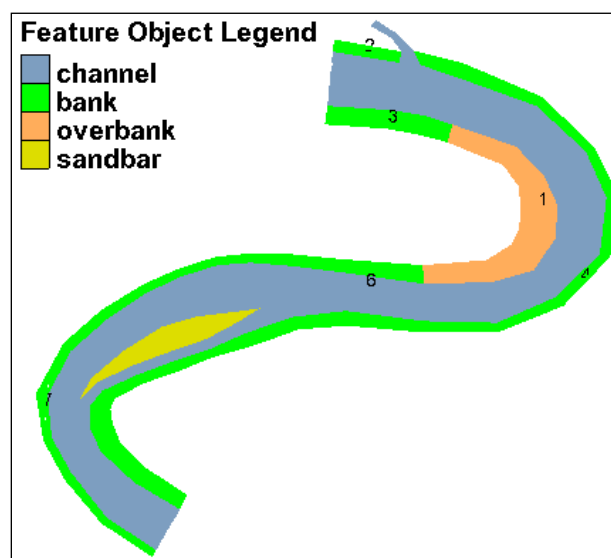

Figure 4 Material properties for each polygon
5. Using the **Select Feature Polygon**  dynamic tool, double-click on the polygon at the top of the S-curve (between the small tributary and the inflow boundary, labeled 2 in Figure 4) to bring up the *Land Polygon Attributes* dialog.
8. Repeat steps 4–6 for each polygon, making sure that each polygon is assigned the appropriate material property as indicated in Figure 4.